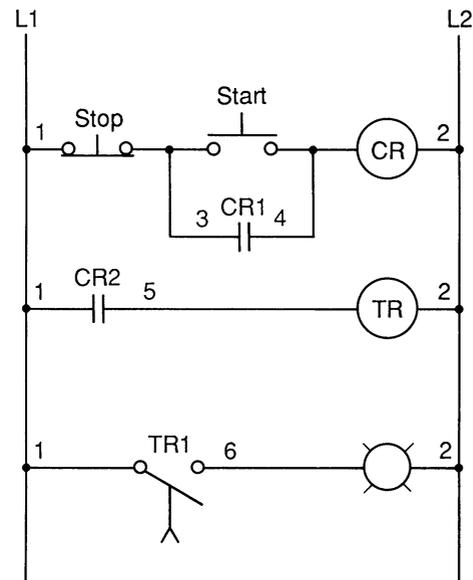

Fig. 9-4 Ladder diagram of control circuit with a delay relay.
A ladder diagram of a control circuit with an on-delay relay is shown in Fig. 9-4. The start button is pushed and the control relay (CR) is energized; thus all CR contacts close. The CR remains energized even after the pushbutton is released. Relay contacts CR-1 and CR-2 are closed, and a voltage is applied to the coil of the time-delay relay (TR). Even though voltage is applied to the timing relay coil, contact TR-1 does not close immediately. After a predetermined period of time, TR-1 closes and the indicator lamp turns on.